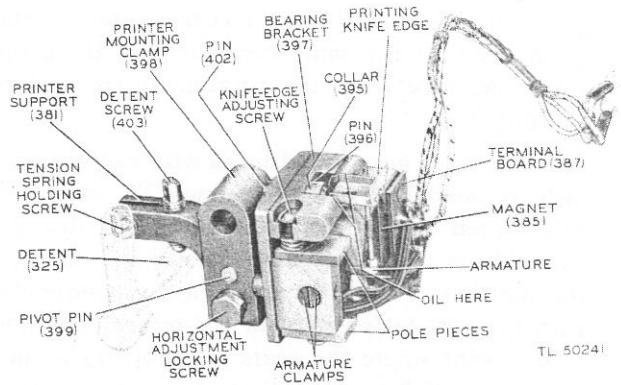

Figure 40—Printer unit
34. PRINTER - UNIT SERVICING. *a. Assembly.* If the printer unit (fig. 40) has been disassembled for replacement of parts, observe the following precautions when reassembling:
c. **Adjustments.** Make adjustments of the printer mechanism while a message is being received from a remote station, or while monitoring. Remove the detent knob and printer cover first. There are two adjustments: (See fig. 40.)
(1) With the detent (325) turned so that the detent screw (403) is resting in the groove (PRINT position), loosen the screw clamping the ends of the printer support (381). Turn the detent screw to the right or left until the printing on the tape is well defined.
(2) If the printing seems to be darker at one edge of the tape, adjust the knife-adjusting screw by turning it to the right or left until the printing appears to be about the same weight from one side of the tape to the other. This screw adjusts the tilt of the printer knife-blade edge.